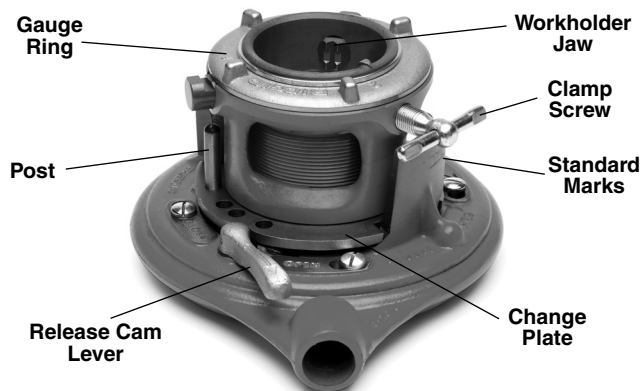

Figure 1 – 65R-C Threader
1. Place threader with workholder up (Figures 1 and 2) and unscrew workholder by turning counter-clockwise until change plate is clear of posts.
65R-C: Turn gauge ring until desired pipe size corresponds with mark on top of workholder (Figure 1).